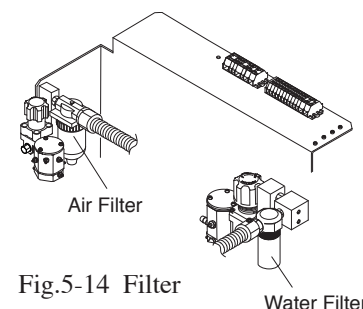

Fig.5-14 Filter
(7) Filter Replacement (Fig.5-14)